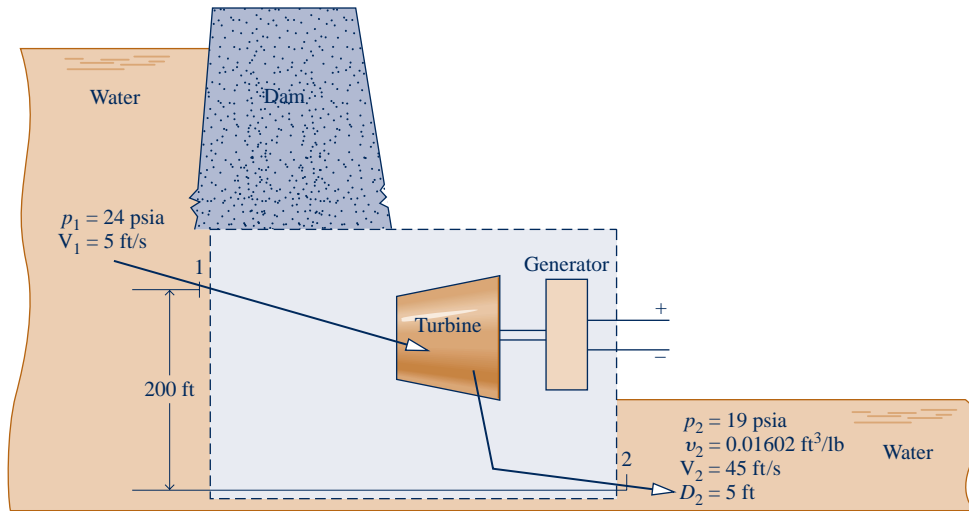

Fig. P6.183
- 6.183** As shown in Fig. P6.183, water behind a dam enters an intake pipe at a pressure of 24 psia and velocity of 5 ft/s, flows through a hydraulic turbine-generator, and exits at a point 200 ft below the intake at 19 psia, 45 ft/s, and a specific